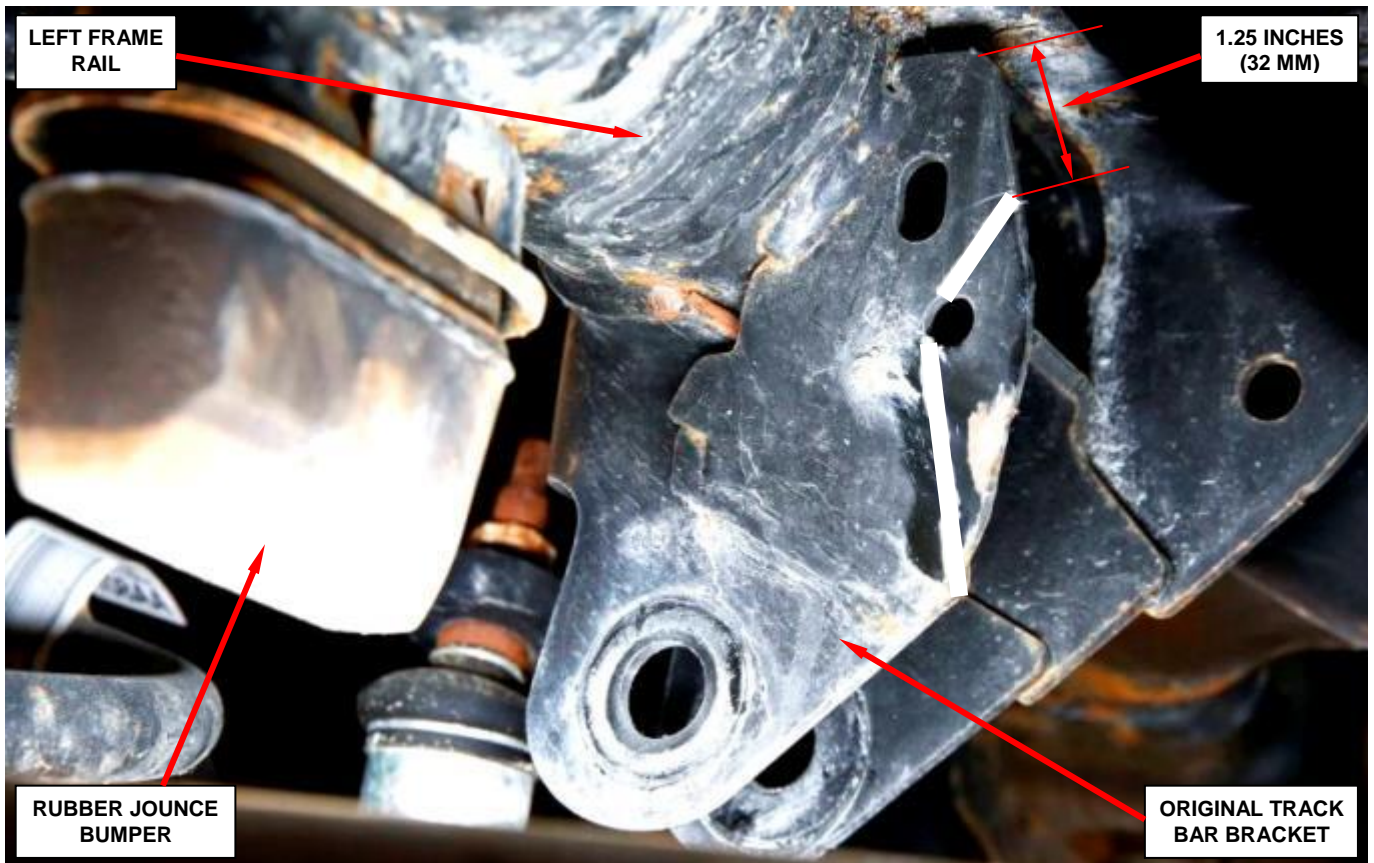

Figure 7 – Mark Frame and Cut Bracket with a Cut-Off Wheel
- a. Mark the frame bracket shown in Figure 7.